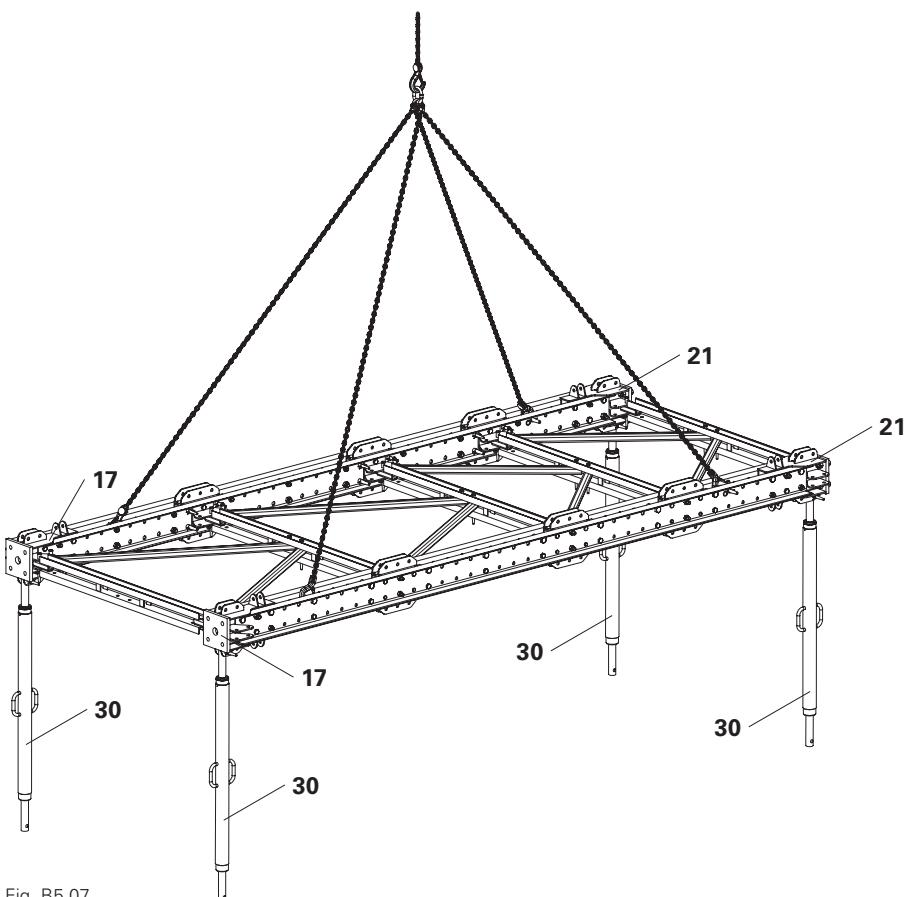

Fig. B5.07
2. Connect 2x heavy-duty spindles SLS (30) each to the prop bases VST 48 (17) and prop connectors VST 48 (21) by means of 1x fitting pin Ø 21 mm (9) each.(Fig. B5.07)